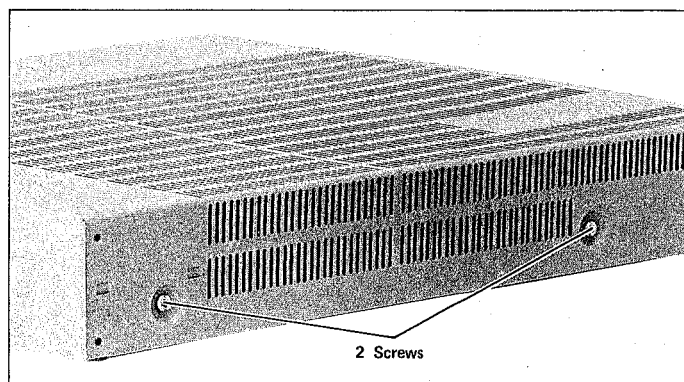

Figure 39-1
1. Remove the 4 screws retaining the cabinet at the right and left surfaces. (Refer to Figure 39-1)
3. Giving a force to the bottom of cabinet, hold it up and remove. (Refer to Figure 39-1)